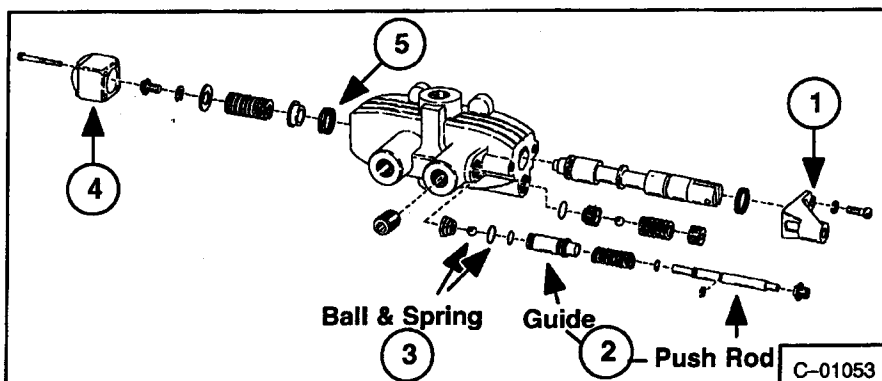

Fig. 4-15 Variable Speed Valve Parts
3. Remove temperature release valve bracket (Fig. 4-15, Item 1).
4. Remove push rod guide and push rod (Fig. 4-15, Item 2).
5. Use magnet to remove ball and spring (Fig. 4-15, Item 3).
6. Remove end cap and spring (Fig. 4-15, Item 4).
7. Install seal on dust cap end of spool (Fig. 4-15, Item 5).
#### 4-16 ASSEMBLY OF VARIABLE SPEED CONTROL VALVE, SEAL REPLACEMENT WITH CONTROL VALVE IN THE BOBCAT (With Holding Release Valve) (Fig. 4-15)